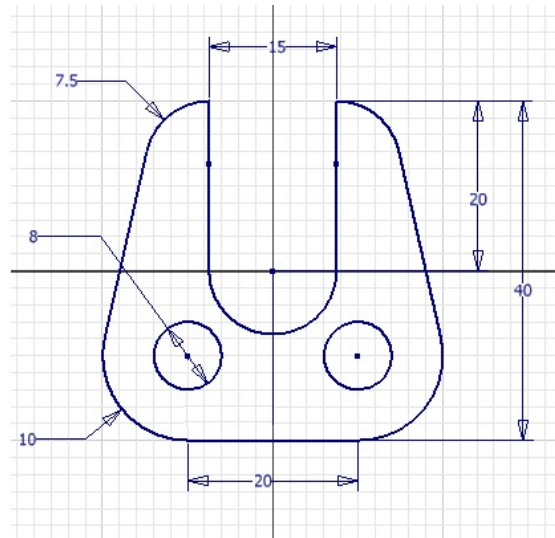

Figure 3-62 *The final dimensioned sketch for Tutorial 3*
- Draw inner circles and add constraints and dimensions to them, refer to Figure 3-62.
Notice that because of the **Equal** constraint, the size of the right circle is automatically modified to match the dimension of the left circle. The final sketch for Tutorial 3 after drawing and dimensioning circles is shown in Figure 3-62.